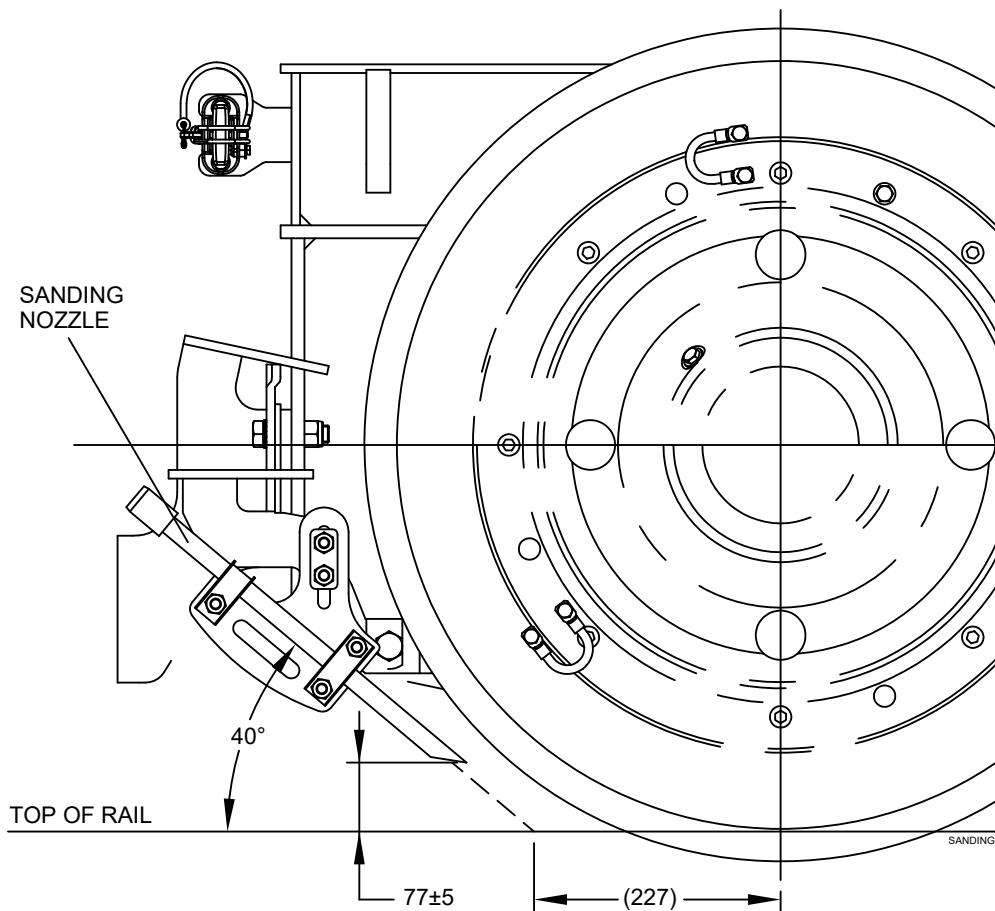

Figure 5-8: Sanding Nozzle Adjustment
2. Insert a clamping plate (37), two M10 x 50 bolts (36), M10 lock washers (35) and M10 lock nuts (34) and torque to 27Nm.
3. Place the sanding nozzle (33) on the sanding nozzle bracket (38).
4. Insert a pipe clamp (31), M10 x 30 bolt (30), M10 lock washer (29) and M10 lock nut (28) and temporarily tighten.
5. Insert a pipe clamp (32), two M10 x 30 bolts (30), M10 lock washers (29) and M10 lock nuts (28) and temporarily tighten.
6. Use a plastic hammer to adjust the position of the sanding nozzle (33) to approximately 40 degrees between the nozzle and top of rail. See Figure 5-8.